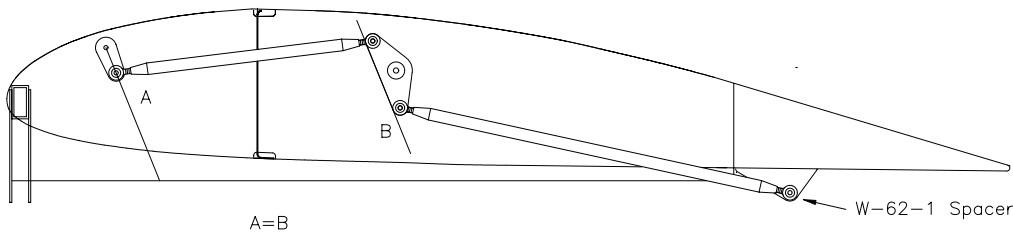

Figure 15.15.6
11) Adjust the pushrods until the reversal Bellcrank and the forward Horn are at the same angle and the Flap is in the full retracted position. Figure 15.15.6.